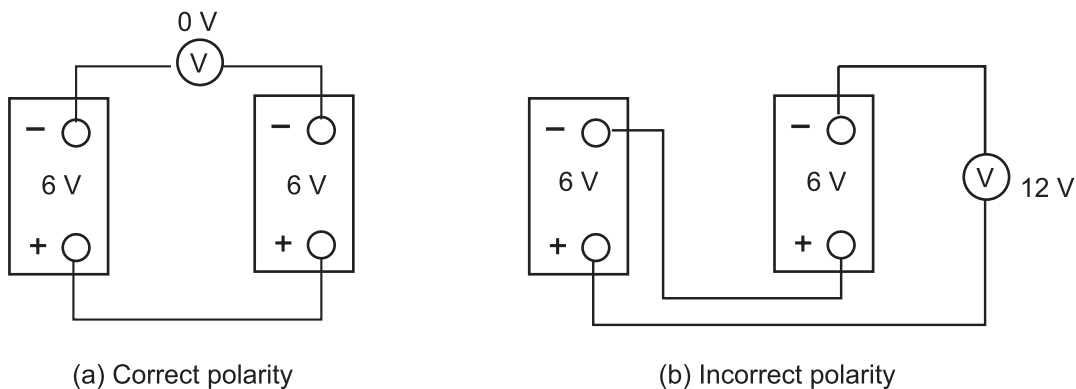

Figure 7 — Polarity test
2. Before connecting the paralleling jumper between the remaining two terminals, insert a voltmeter between these two points. See Figure 7.